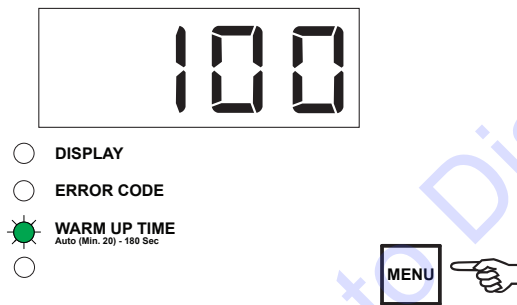

Figure 28. Warm-Up Adjustment
2. The 7-segment display will show the output pressure setting (Figure 28). Press the **MENU** button repeatedly until the **WARM UP TIME** LED lights up.